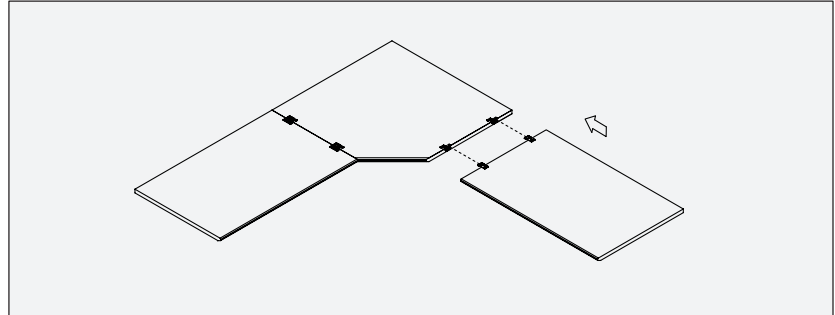
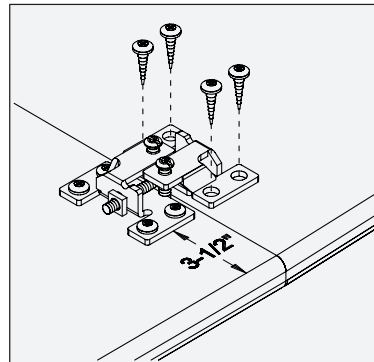

Fig. 17
Fig. 18A
- B. Line up the adjacent Desktops evenly with the Corner Desktop (Fig. 17). Proceed to Step 2.
- A. Assemble the two halves of the Joint Leveler Support and attach the assembly to the corner and adjacent Desktop (Fig. 18A). Note the Joint Leveler is required in the front and the back of the Corner Desktop (Fig. 17), approximately 3-1/2" from the front edge (Fig. 18A).